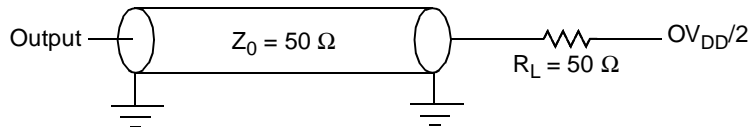

Figure 26. AC Test Load for the JTAG Interface
1. All outputs are measured from the midpoint voltage of the falling/rising edge of t_{TCLK} to the midpoint of the signal in question. The output timings are measured at the pins. All output timings assume a purely resistive 50 Ω load (see Figure 26). Time-of-flight delays must be added for trace lengths, vias, and connectors in the system.
2. The symbols for timing specifications follow the pattern of $t_{\text{(first two letters of functional block)(signal)(state)(reference)(state)}}$ for inputs and $t_{\text{(first two letters of functional block)(reference)(state)(signal)(state)}}$ for outputs. For example, t_{JTDVXH} symbolizes JTAG device timing (JT) with respect to the time data input signals (D) reaching the valid state (V) relative to the t_{JTG} clock reference (K) going to the high (H) state or setup time. Also, t_{JTDXKH} symbolizes JTAG timing (JT) with respect to the time data input signals (D) went invalid (X) relative to the t_{JTG} clock reference (K) going to the high (H) state. In general, the clock reference symbol is based on three letters representing the clock of a particular function. For rise and fall times, the latter convention is used with the appropriate letter: R (rise) or F (fall).
Figure 26 provides the AC test load for TDO and the boundary-scan outputs of the MPC8347E.